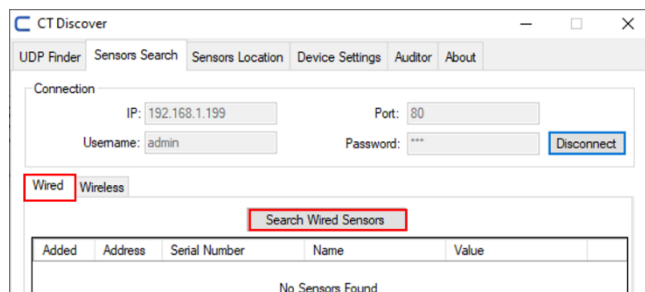

Figure 20 – Sensor Search Wired option
- To start a wired search, select the “Wired” option and click “Search Wired Sensors” button (Figure 20). For each wired sensor found on Nidus, one entry is added in the table. On the table the user can check if the sensor is already added to Nidus or not, by checking the symbol on first column. Sensors already added will have the symbol ✓, and new sensors the symbol ✕.